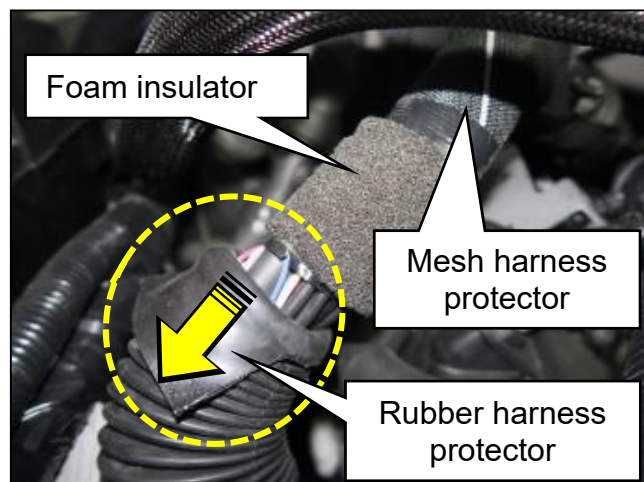

Figure 13
11. Carefully roll the end of the rubber harness protector, and then pull it in the direction shown in Figure 13 to expose the foam insulator and the tape securing the mesh harness protector.